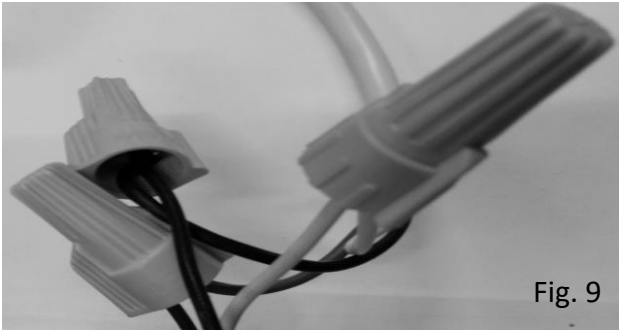

Fig. 9
- Connect building wires to LED driver input wires as such: white to white [neutral], black to black [hot], and green to green/bare [ground]. [Fig. 9]